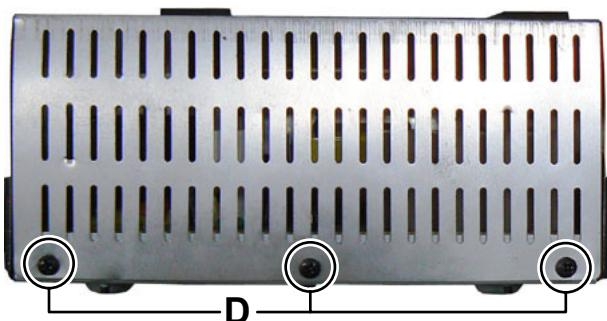

Fig.5
(2) Remove the three screws **D** attaching the Cover. (See Fig.5)